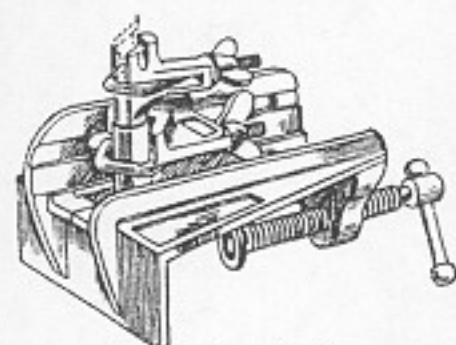
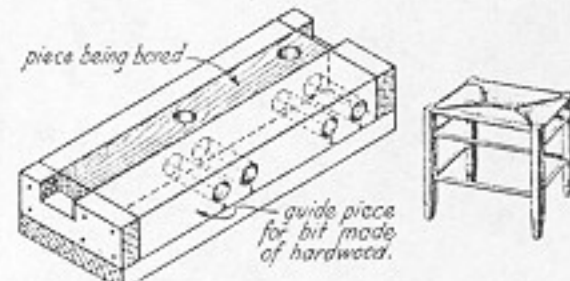

Fig. 216. Doweling jig.
Fig. 223. Jig for boring holes in legs of stool.
12. The boring may be facilitated by using a doweling jig (Fig. 216), which is a tool that enables anyone to bore a straight and perpendicular hole. It can be clamped over the edge of a board and is furnished with cylindrical guides of different diameters for the bits (See also the wooden doweling jig, Fig. 223).
Holes now can be bored accurately through the guide piece without previous measuring and marking. Figure 223 shows a jig for